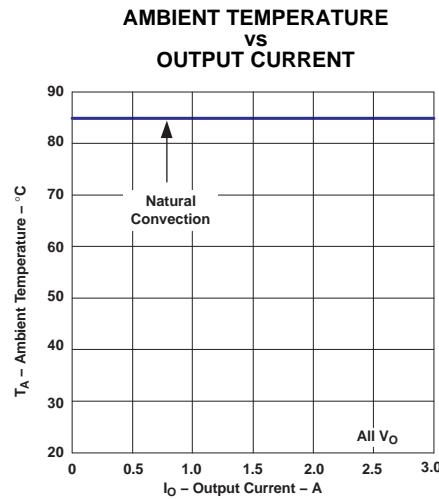

Figure 4.
- (2) The temperature derating curves represent the conditions at which internal components are at or below the manufacturer's maximum operating temperatures. Derating limits apply to modules soldered directly to a 100 mm x 100 mm double-sided PCB with 2 oz. copper. Applies to Figure 4 .